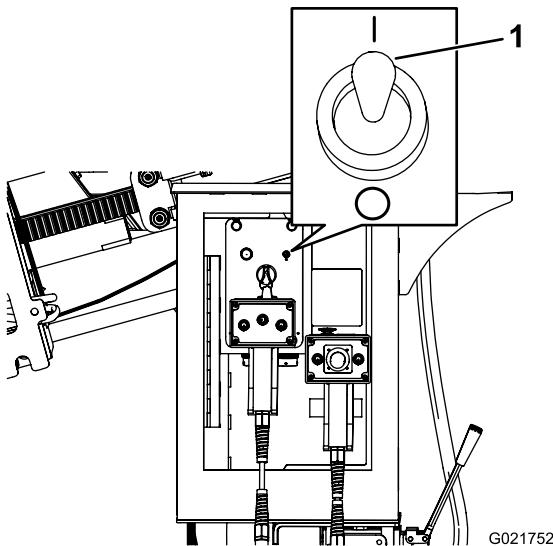

Figure 120
6. Turn the spray-hose attachment switch to the ON position (Figure 120).